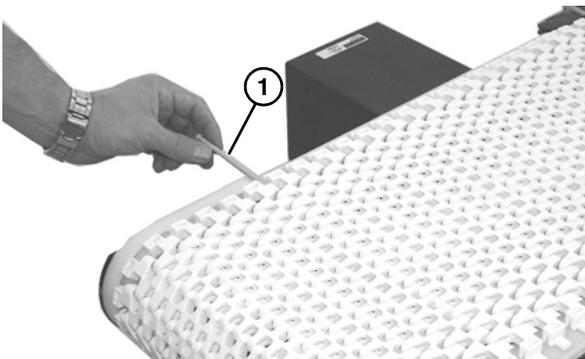

Figure 20
- Insert the belt rod (**Figure 20, item 1**).